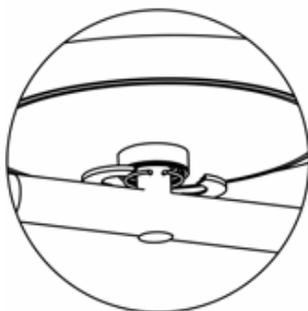

Fig.9
- Attach the dust cover (included in the screw and assembly set) as shown in Fig.9.